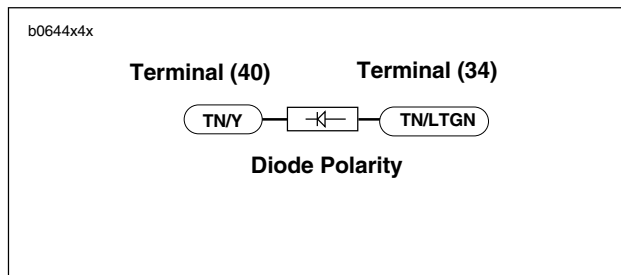

Figure 7-11. Diode Polarity
1. Check diode polarity as shown in Figure 7-11.